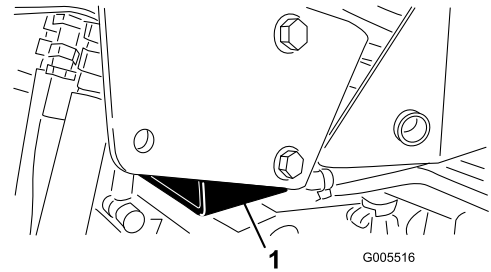

Figure 29
- Right side—under the jack pad and adjacent to the ROPS-support bracket (Figure 29)